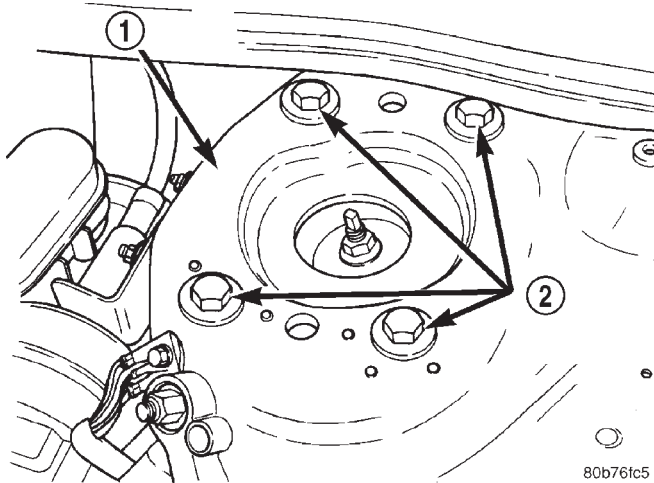

Fig. 6 Shock Assembly Mounting Bolts
(1) Open the hood and mark the position of all four shock assembly mounting bolts on the shock tower (Fig. 6) on the side of the vehicle requiring front camber adjustment.